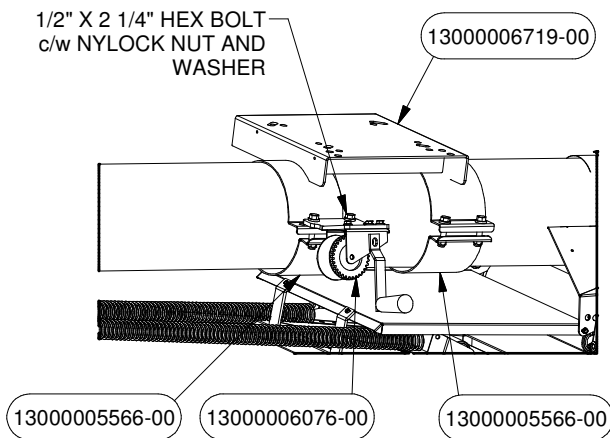

FIGURE 33
2. Mount the Winch PN# 6076 to the Motor Mount using Hex Bolts c/w Hex Nuts. See Figure 33 for details.